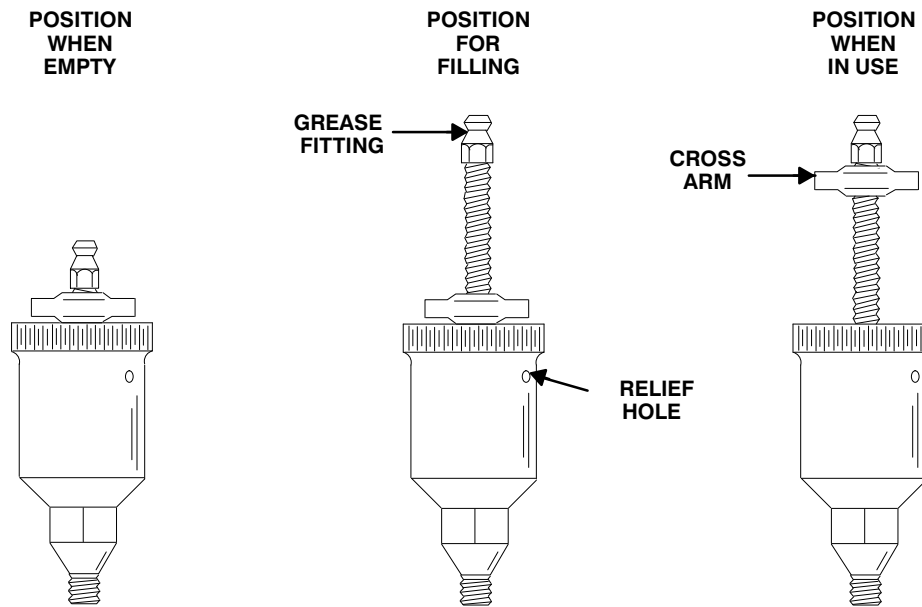

Figure 5. Automatic Lubricating Grease Cup
Fill the grease cup (14) through the grease fitting with No. 2 lithium base grease until grease escapes from the relief hole. Turn the grease cup arm counterclockwise until it is at the top of the stem; this will release the spring to apply grease to the seal (see Figure 5).